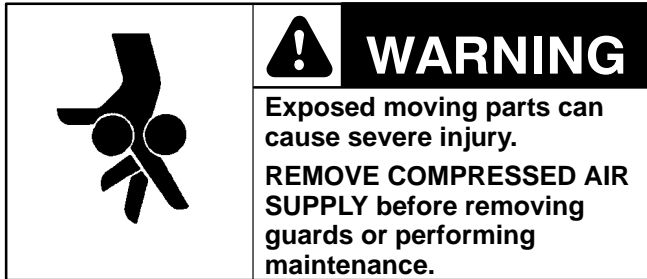

Figure 58
3. Swing down idler guard assembly (AX of Figure 58).